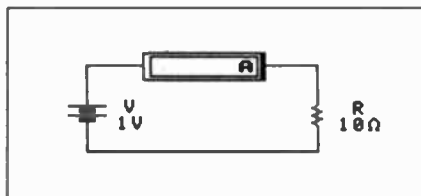

Fig. 1.11. Circuit for assignment 1.2.
- 1. Connect the circuit shown in Fig. 1.11. Note that the ammeter is connected in series with the resistor.